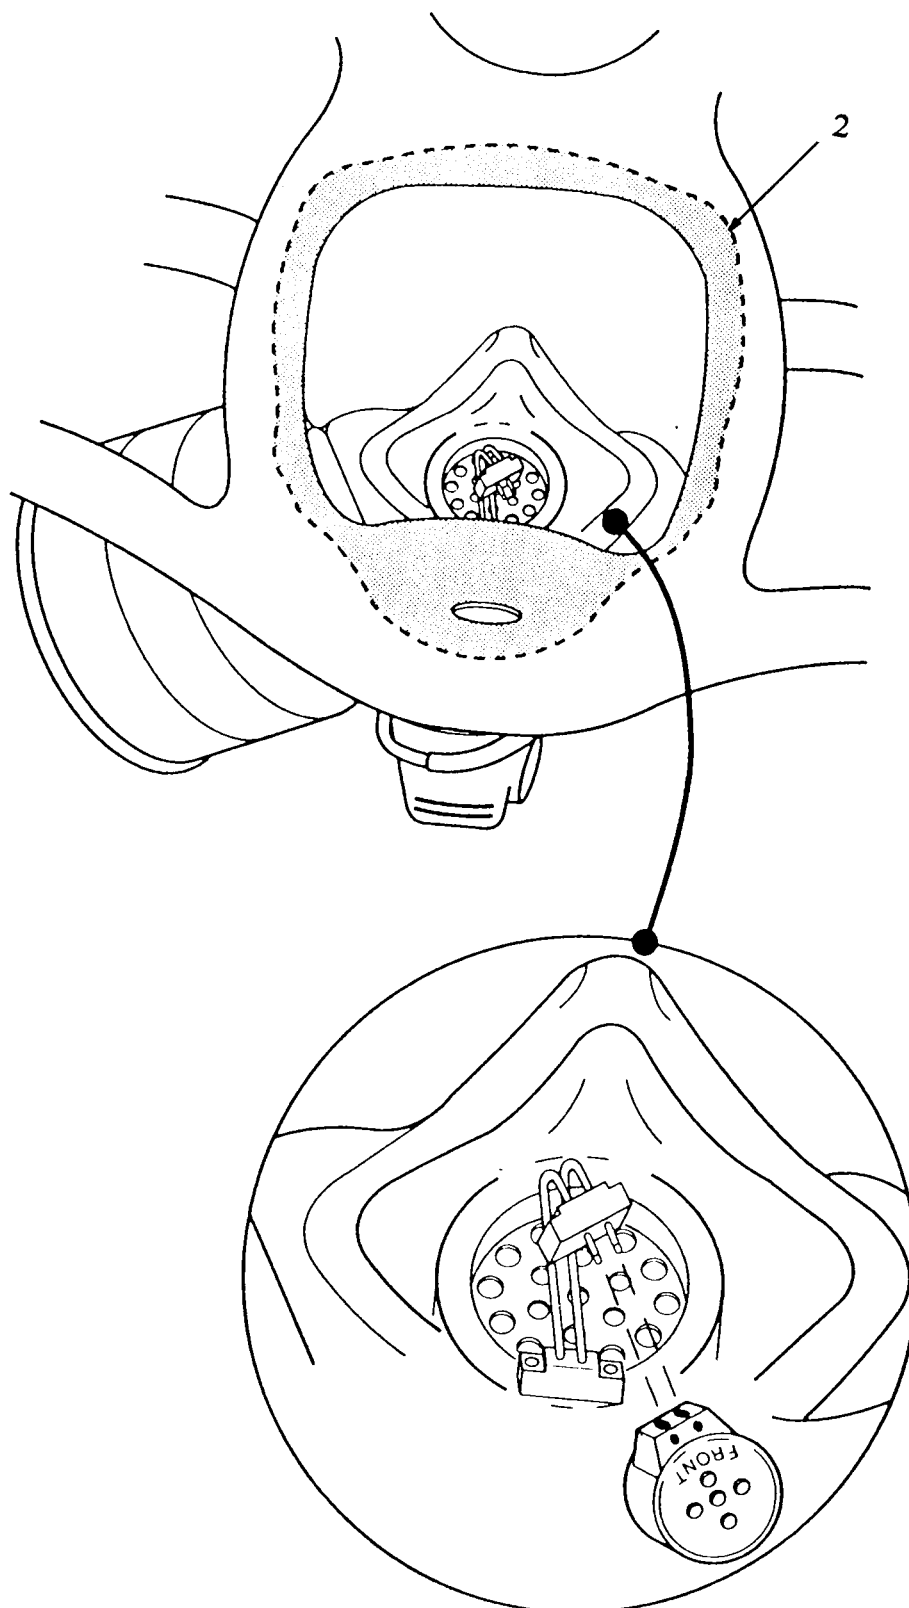

Figure 5-9. Typical MCU-2A/P Internal Microphone Installation
3. Find and examine microphone connector assembly located in front of the front voicemitter area (Figure 5-9).
5. Place microphone facing where mouth will be positioned when wearing mask. Slide microphone all the way up the pins until microphone stops (Figure 5-9).